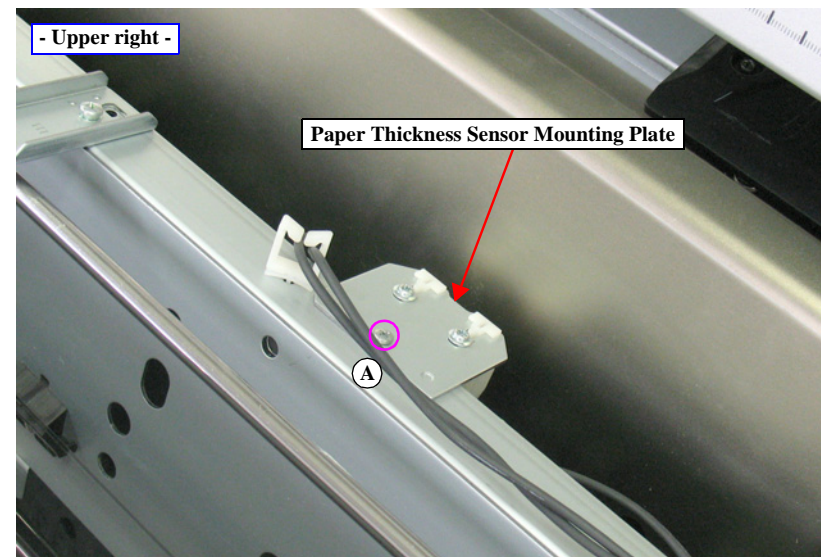

Figure 4-82. Removing the Paper Thickness Sensor Mounting Plate
9. Remove the screw that secures the Paper Thickness Sensor Mounting Plate, and remove the Paper Thickness Sensor Mounting Plate. *See Figure 4-82.*
6. Remove the two screws that secure the Driven Roller Release Motor, and remove the Driven Roller Release Motor. *See Figure 4-82.*